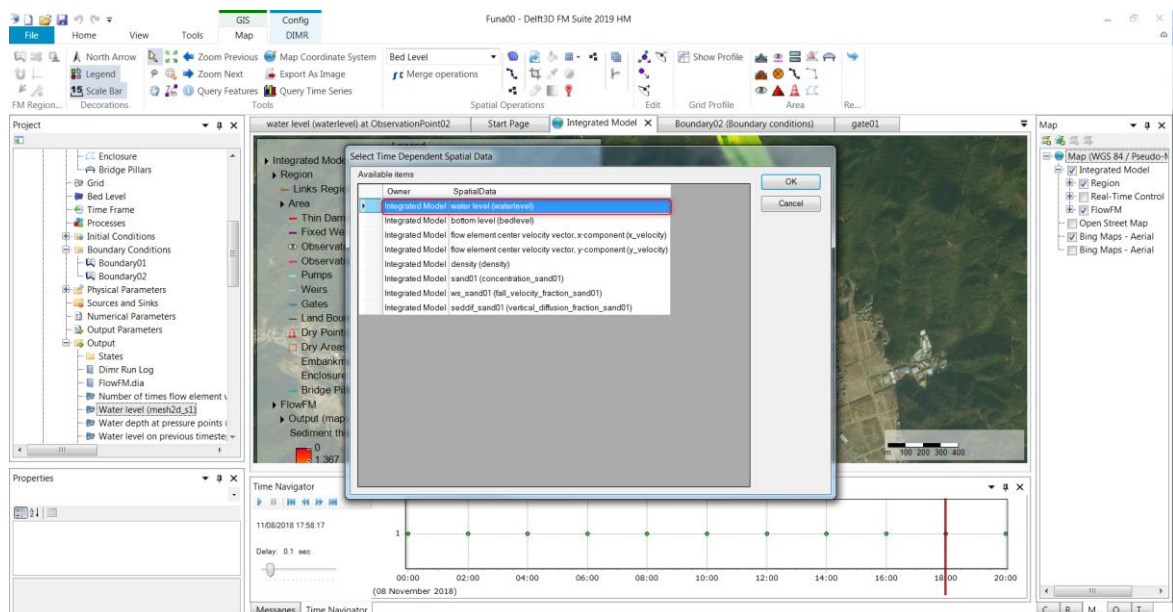

Figure 3.7 History file: check the water level upstream the dam (step B: select the water level)
- Then select the type of the data you want to explore (see Figure 3.7).